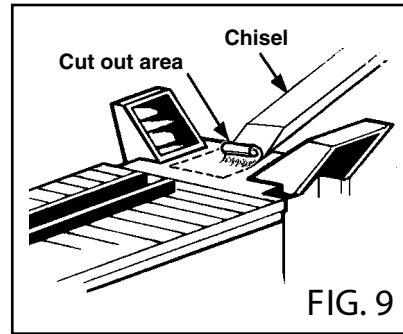

FIG. 9
c. If coupler mounting surface is too low and you cannot raise car with washers - cut out a section of car floor to raise coupler mounting surface (take care to make it level and straight), see Fig. 9.